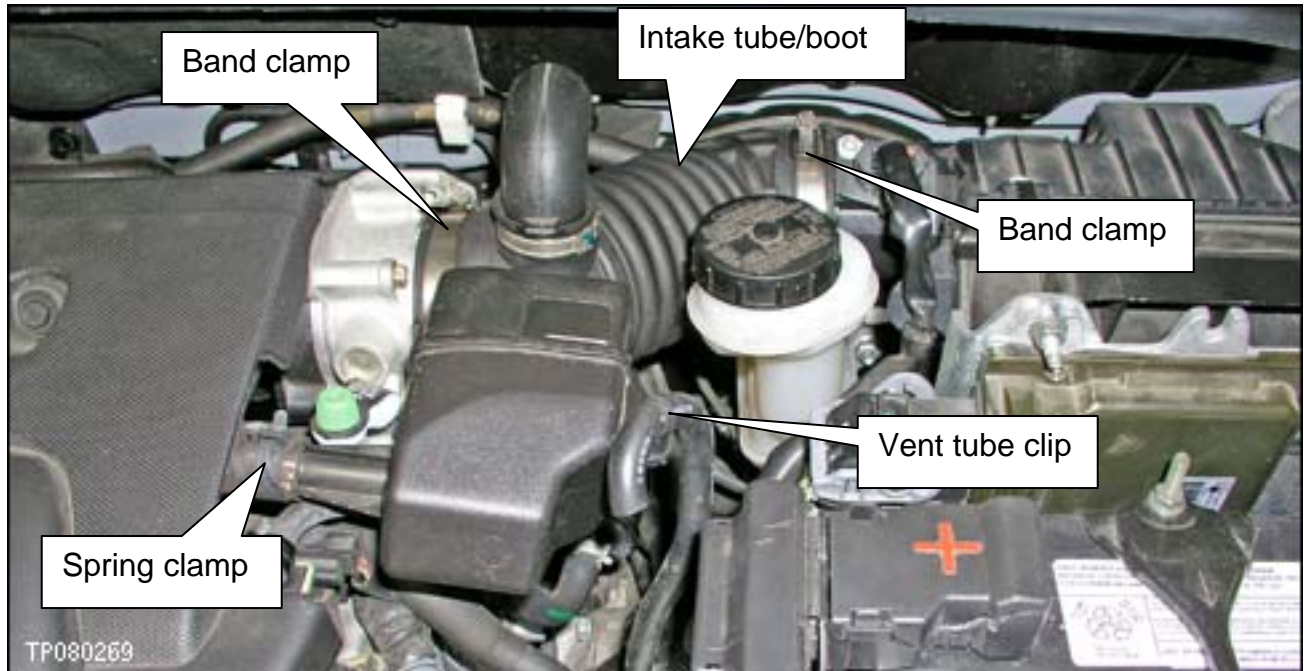

Figure 1
1. Remove the air intake tube/boot between the air cleaner assembly and intake manifold (see Figure 1).